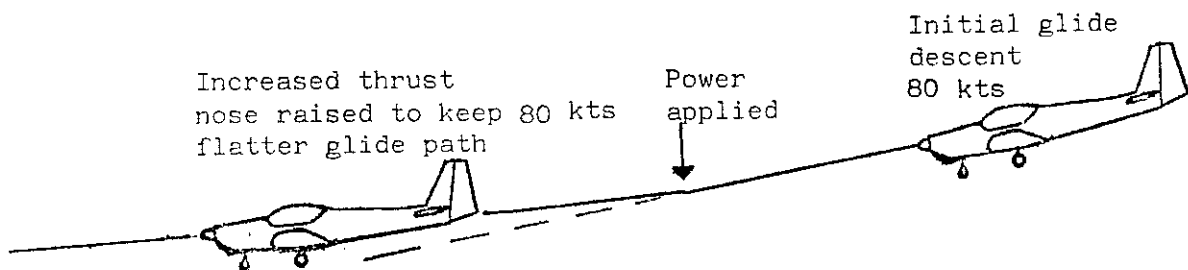

Fig 8.5 Effect of power on gliding angle
- c Power. If power is applied during a glide descent, the increase in thrust partially offsets the drag and causes the aircraft to accelerate if a constant attitude is maintained. However, it is normal to descend at a selected airspeed. Thus, if power is applied, the nose must then be raised to keep the speed constant. The subsequent descent will be at a lower rate of descent and at a flatter angle (Fig 8.5). Therefore, power is used to obtain the required rate of descent for descents at various speeds and aircraft configurations.